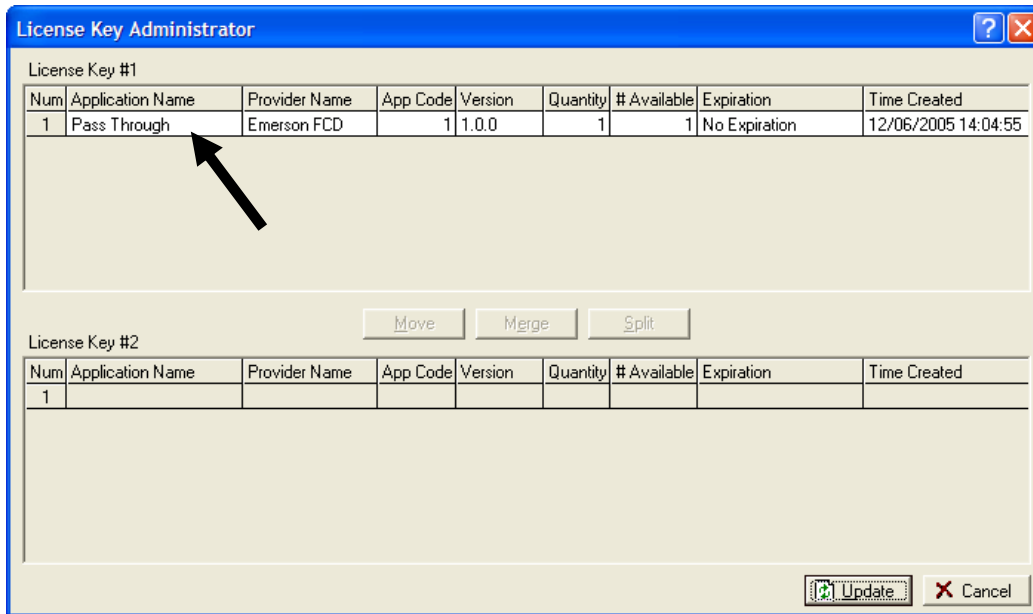

Figure 4. License Key Administrator
3. Select **Utilities > User Program Administrator** from the ROCLINK menu bar. The User Program Administrator screen displays (see Figure 4):